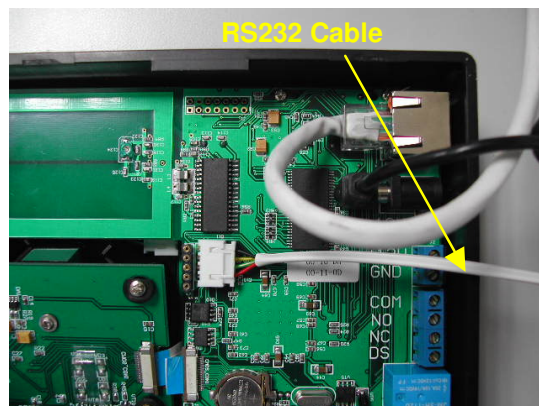
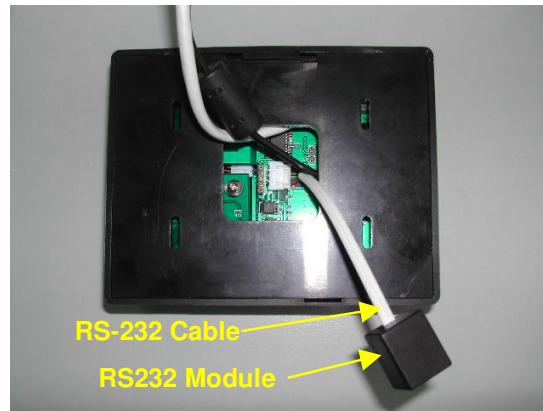

Figure 1 : Connection of RS232 Cable to FS21M
Figure 2 : RS232 Cable connected to the FS21M
- Connect the RS232 interface module to FS20/21M. Please see Fig.1 and Fig. 2.